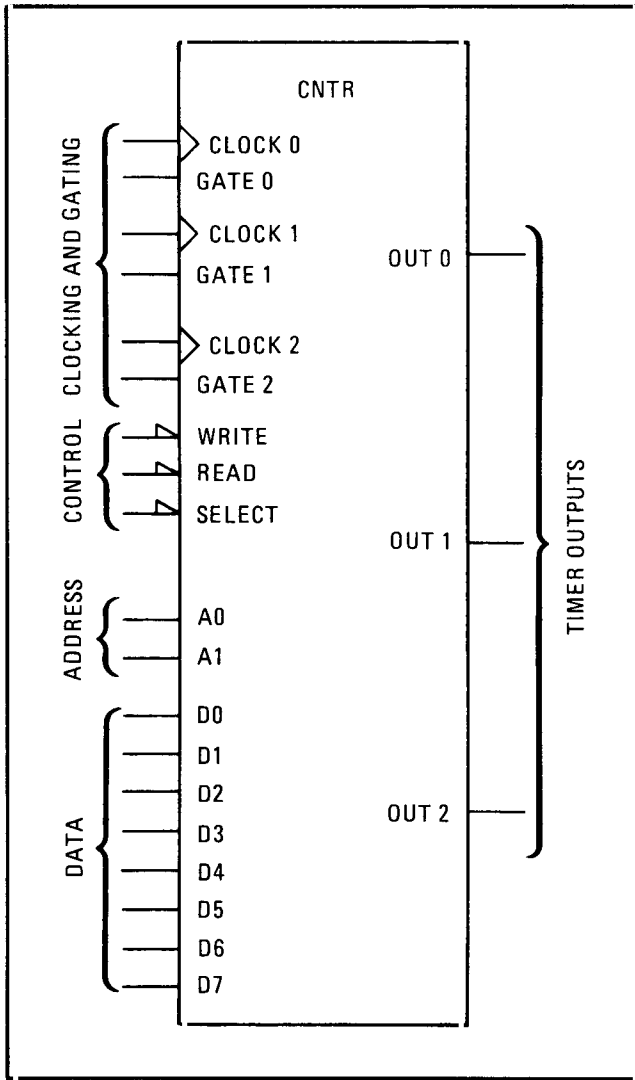

Figure 8-26. Programmable Interval Timer
**Programmable Interval Timer.** Refer to Figure 8-26. This device contains three independent 16-bit down counters which can operate in either binary or BCD count sequences. Each counter is gated and clocked via its own input port. The Data Input pins of the device are bi-directional; data is input to or output from the internal buffer following read or write instructions. Functions of the internal data bus buffers include: programming the modes of the internal counters, pre-setting the count registers, and reading intermediate count values. An active low on the Write line allows the internal counters